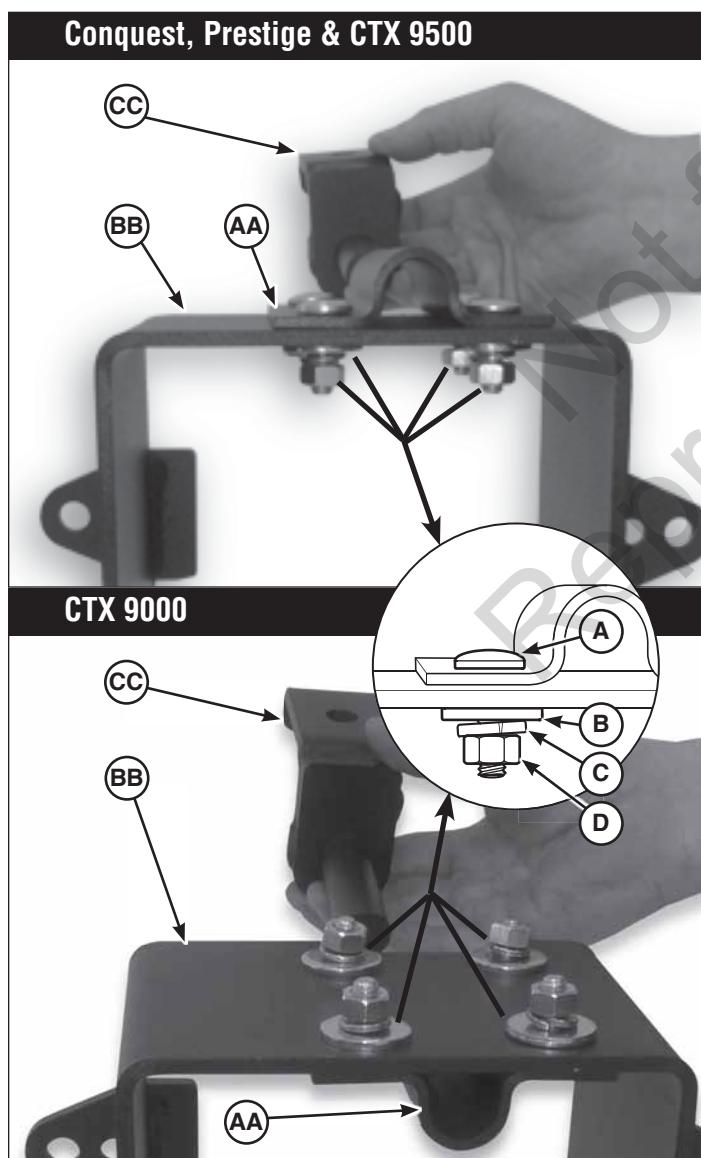

Figure 1
1. Attach the support clamp (**AA**, Figure 1) to the push bar assembly (**BB**) with carriage bolts (**A**), washers (**B**), lockwashers (**C**), and nuts (**D**). **Do not tighten the hardware at this time.**